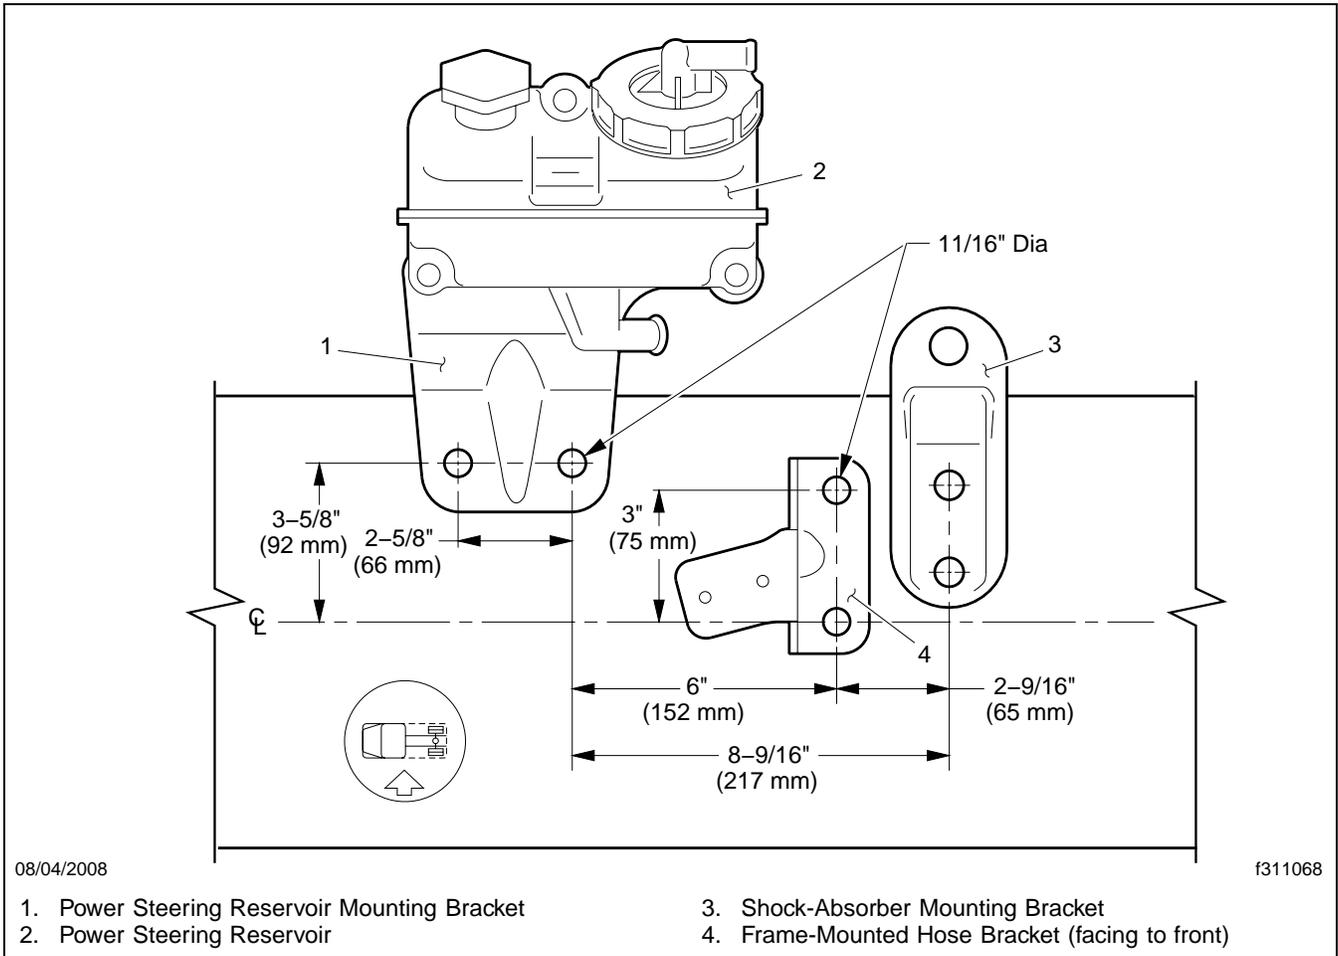

Fig. 3, Drilling and Mounting Locations
15. Mark the layout of the holes on the frame, using the drilling diagram. See **Fig. 3**.
33. Install the frame-mounted hose bracket, as shown in **Fig. 3**.